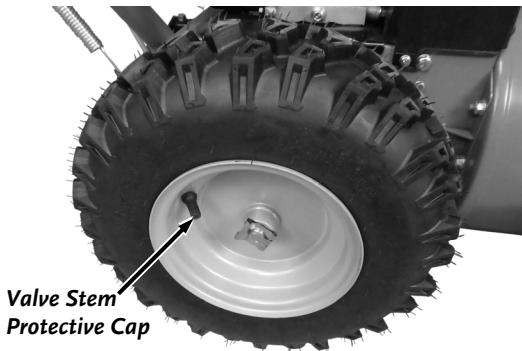

Figure 22
1. Remove the Valve Stem Protective Cap (**Figure 22**) and check the tire pressure with a Tire Pressure Gauge.